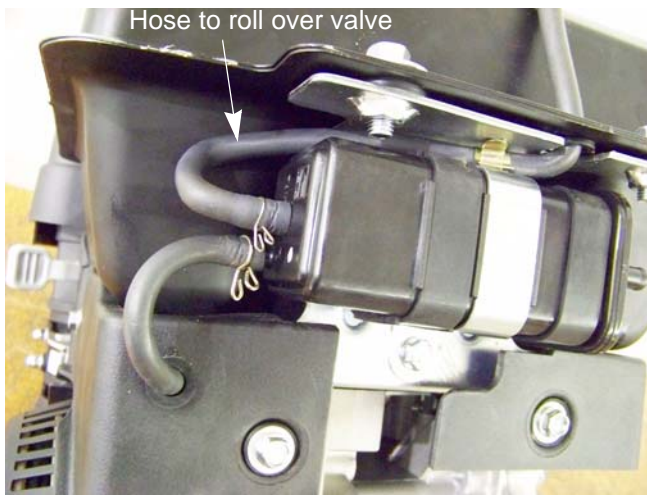

Figure 4.14
1. Disconnect the hose that runs from the charcoal canister to the roll over valve. See Figure 4.14.